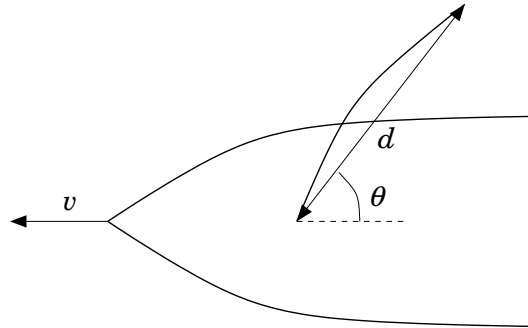

Figure 4 A schematic sketch of the sail boat in Problem 6.
6. A schematic sketch of a sail boat with mass m is shown in Figure 4. For a given wind direction, the propelling force F_p is modelled proportional to the projection of the sail onto the direction of travel, with proportionality constant α such that $F_p = \alpha d \sin \theta$. There is also a drag force F_d from the water, which is quadratically proportional to the boat speed v with proportionality constant β such that $F_d = \beta v^2$. The described behavior is captured by